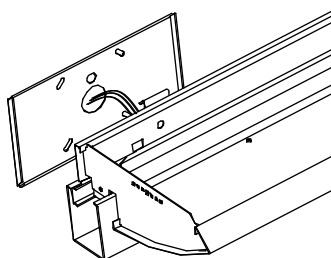

Figure 2
B. Remove reflector. On the power fixture you will have to feed the wires through to the back of the fixture, on the side your j-box is on. (Fig. 2) Feed wires from junction box into the back of the fixture and connect wiring from the j-box to the fixture. (Fig. 2)